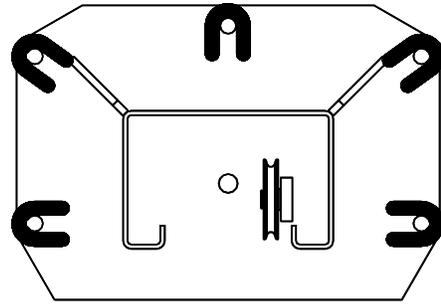

Fig 4 - Column Shimming
- Shim column to plumb using the shims provided as shown in **Fig 4**. **DO NOT** shim more than 1/2" at any given point. Use a level no less than 24" in length to plumb columns.
16) Check idler column shimming. Use additional shims (see Fig. 4) to remove any gaps that may have been created while installing overhead beam. Repeat steps 6-10 for the Idler Side Column anchoring.